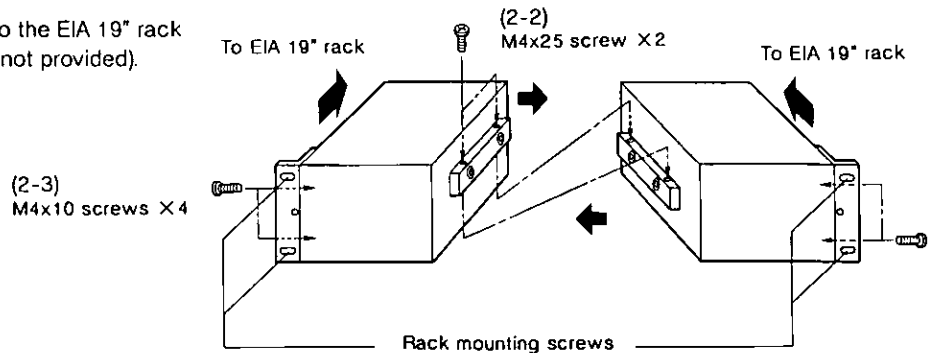

Fig. 3
- 2-2. Attach two Remote Control Units by using four screws (M4 × 25, provided) as shown Fig.3.
- 2-3. Fix two Rack Mounting Angles(161) on both side of the jointed Remote Control Units.